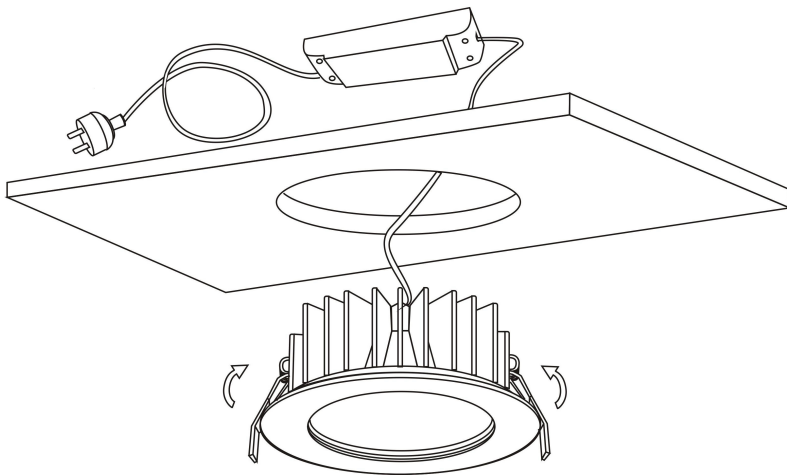

Figure 2
2. Pull out the power supply connect to the driver input, then fold up the mounting clip 90 degrees as shown in figure 2;